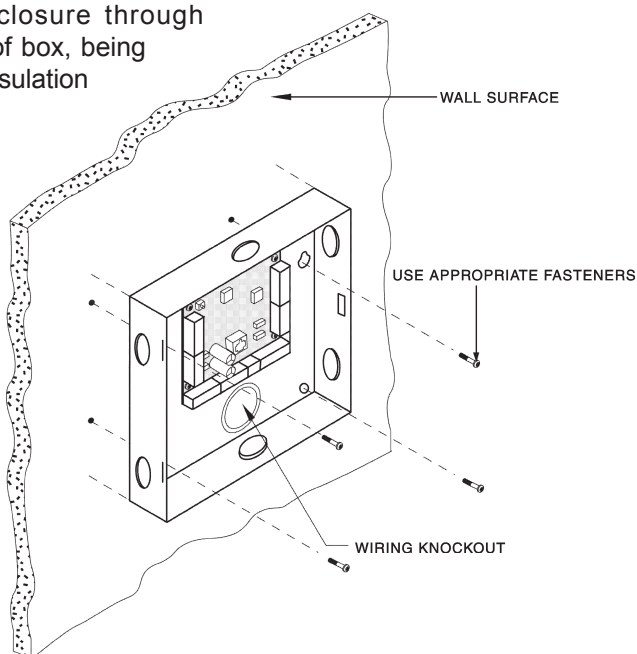

FIGURE 2
7. Install two bottom mounting screws (see figure 2).